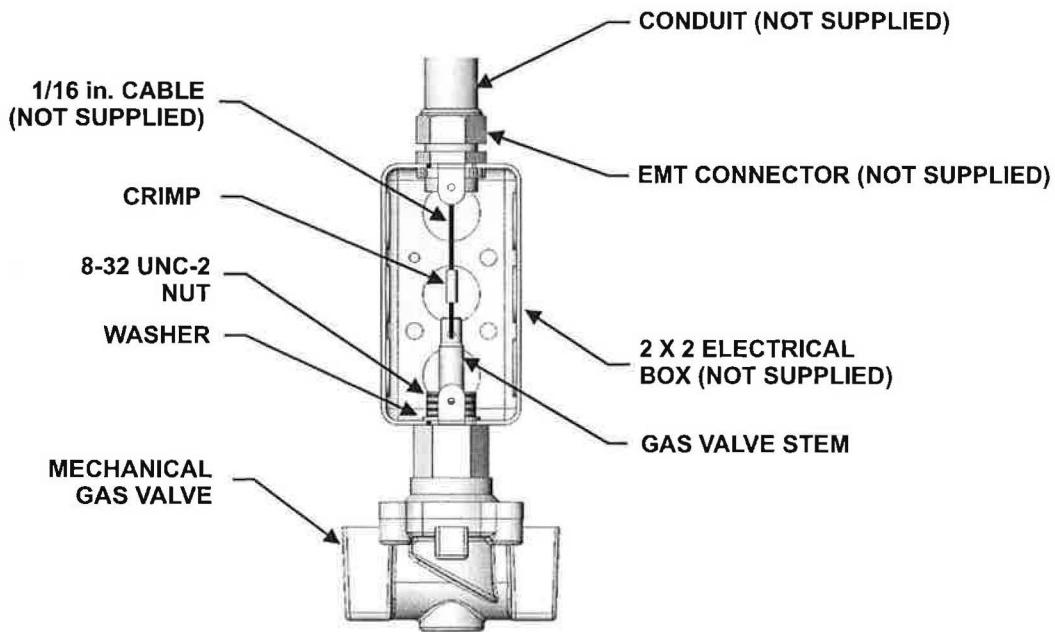

Figure 4-73. Installing Mechanical Gas Valve
2. Remove top and bottom knockouts from the 2x2 electrical box. Install 1/2-inch (13 mm) EMT to top hole of the electrical box (see Figure 4-73).